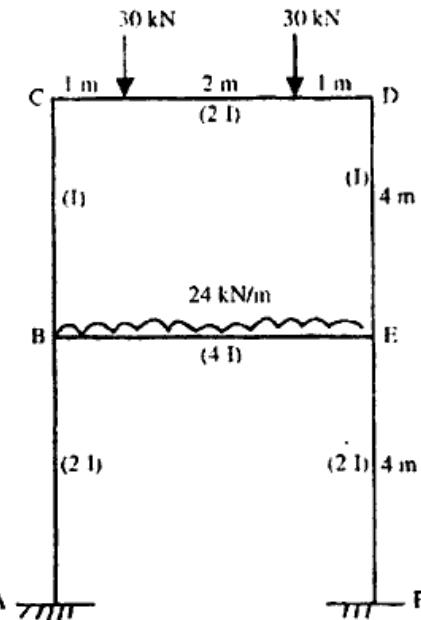

Fig. 3
4. Analyse the frame as shown in Fig. 3 by Kani's method, also draw BMD.